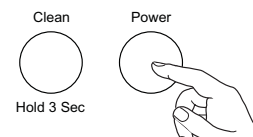

Figure 8
12. When complete, fill the reservoir with fresh water and press the 'Power' button to start making ice. See Figure 8.